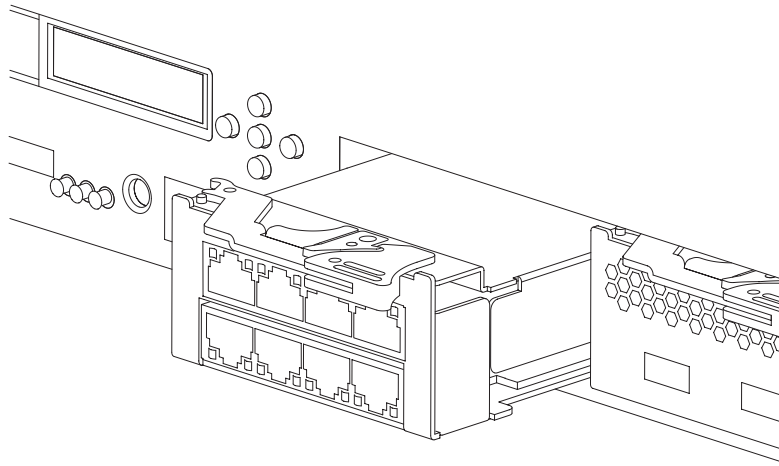

Figure 27. Removing an Ethernet module
4. Pull the lever toward you to pull out the Ethernet modules, as shown in Figure 27.